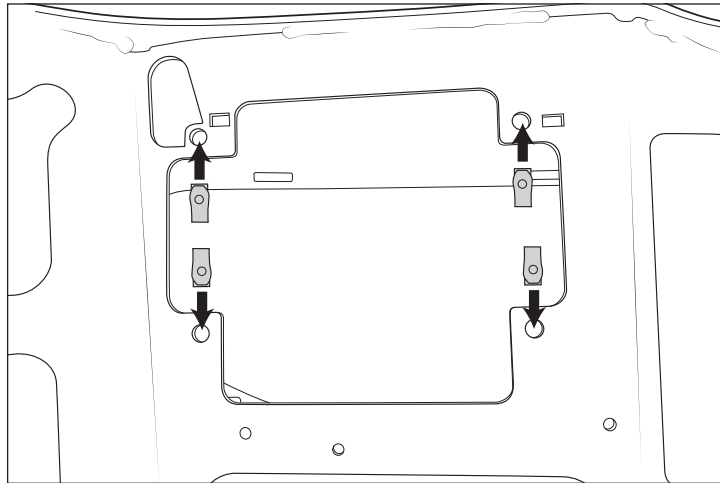

Figure 24
1. Install four of the supplied M6 U-Nuts onto each bumper corner (fig. 24).